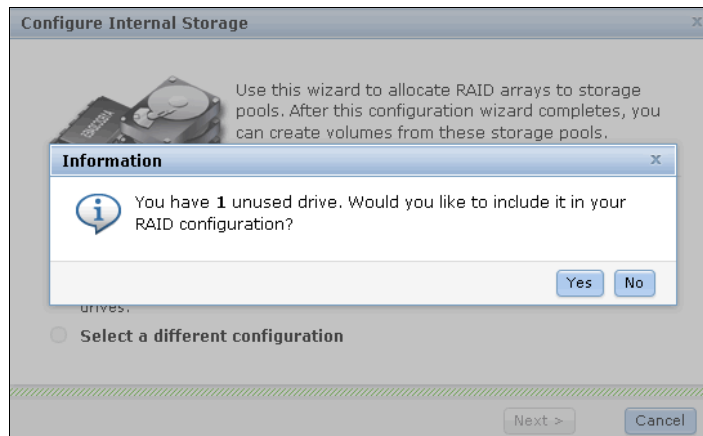

Figure 9-7 Unused drives information message
3. Click **Configure Storage** and the Storage Configuration wizard opens. Because the SSD is in Unused status, an information message is displayed, as shown in Figure 9-7. Click **Yes** to proceed to the next window.